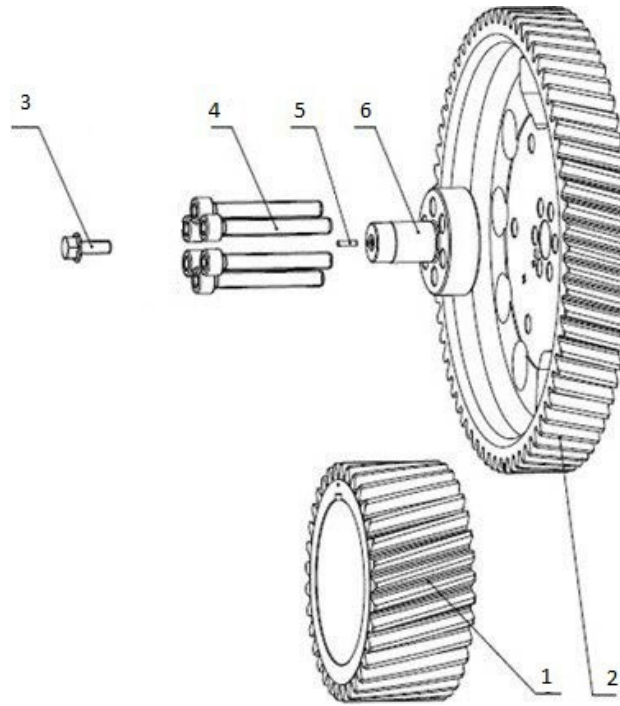
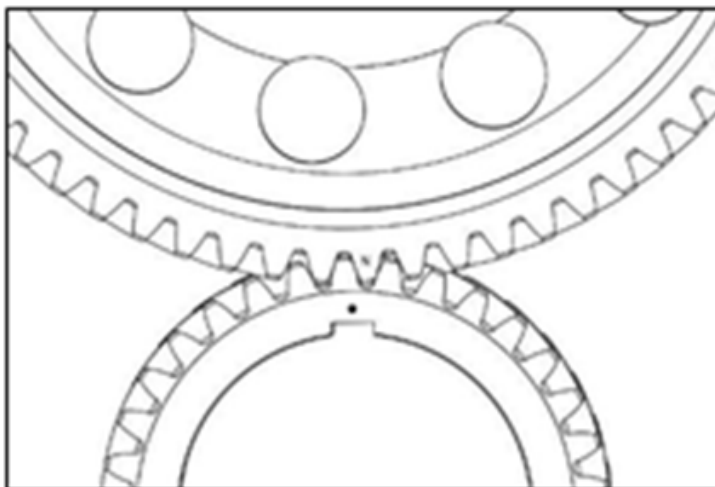

Figure 94. Timing Gears
Figure 95. Timing Marks
1. Turn the crankshaft to make its gear mark "•" straight up and then locate the camshaft timing gear (Figure 95, item 2) via the cylindrical pin on the camshaft, adjust the camshaft timing gear (Figure 95, item 2), align the mark "N" on the gear end face with the mark "•" of the crankshaft timing gear (Figure 95, item 1) as shown below. And then install the connecting shaft (Figure 95, item 7) on the camshaft timing gear, and make sure to align the connecting shaft with the pin hole on the camshaft shaft timing gear. And then tighten the connecting shaft and camshaft timing gear to the camshaft with hexagon socket head cap screw (Figure 95, item 5). Tightening torque: 52 ft/lbs. Check the backlash between the crankshaft gear and camshaft gear, and the meshing clearance should be 0.09mm-0.15mm. Then connect the signal panel (Figure 95, item 4) to the connecting shaft (Figure 95, item 7) via the cylindrical pin (Figure 95, item 6) and tighten it with hexagonal flange bolt (Figure 95, item 3). (Refer to figures 94 & 95)